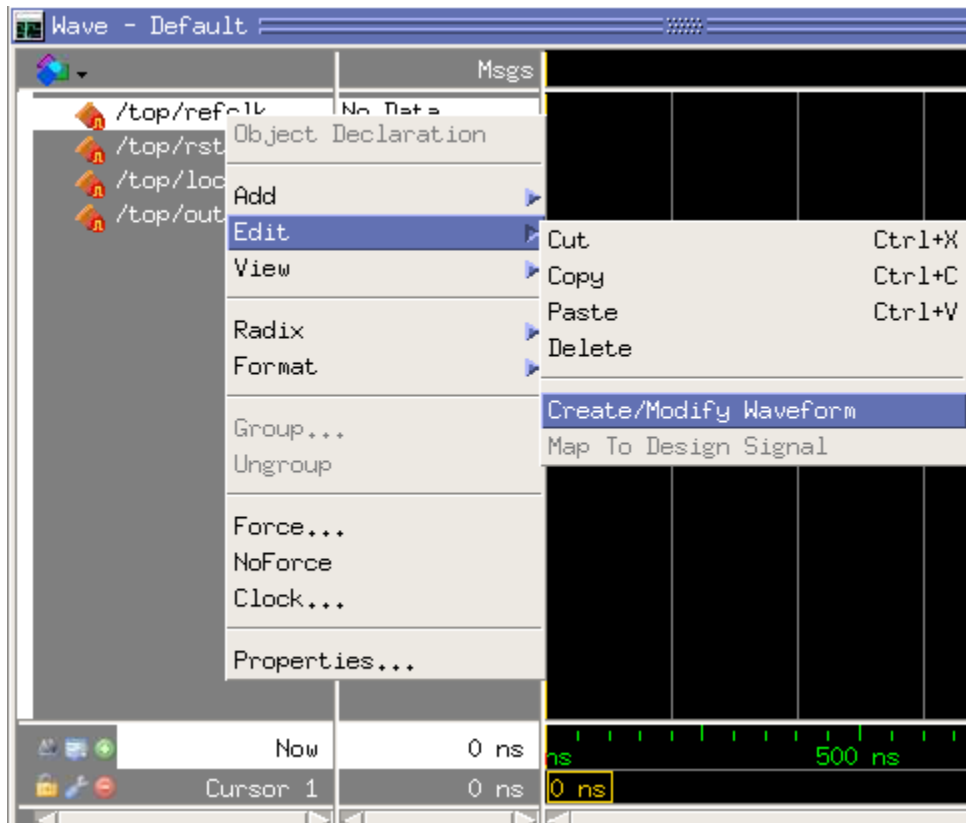

Figure 4
- b. To specify the input vector for ref\_clk, right click on ref\_clk and select Edit -> Create/Modify Waveform as shown in the Figure 4.